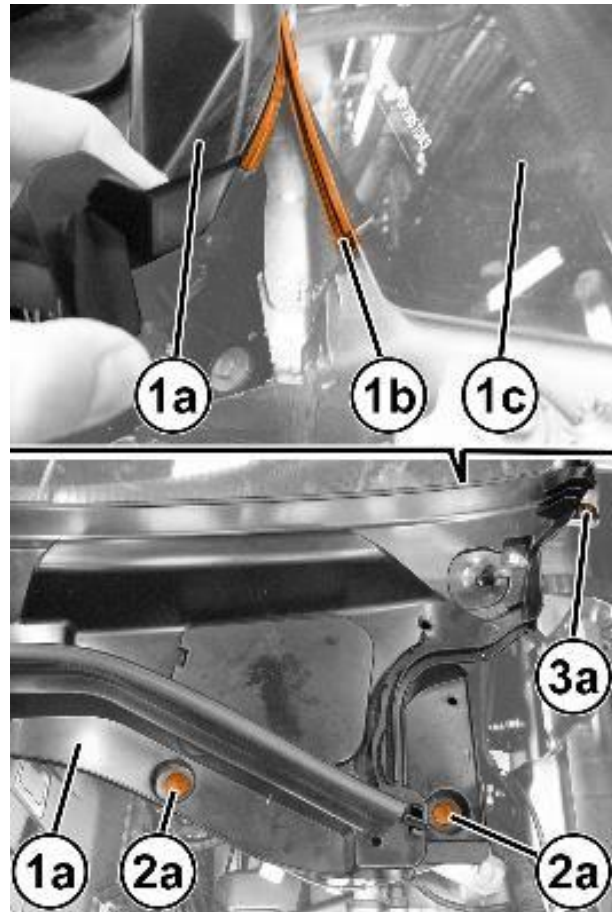

Figure 26 – Windshield Trim
54. Position the windshield base trim (1a) in position and engage the retaining profile (1b) along the entire windshield base (1c) (Figure 26).
NOTE: If necessary, use soapy water to facilitate inserting the trim (1a) into the retaining profile (1b) (Figure 26).
CAUTION: Do not press the trim (1a) excessively into the retaining profile (1b) to avoid damaging the windshield (Figure 26).
55. Apply the retaining buttons (2a) with central pin (Figure 26).
56. Tighten the screw (3a) (Figure 26).